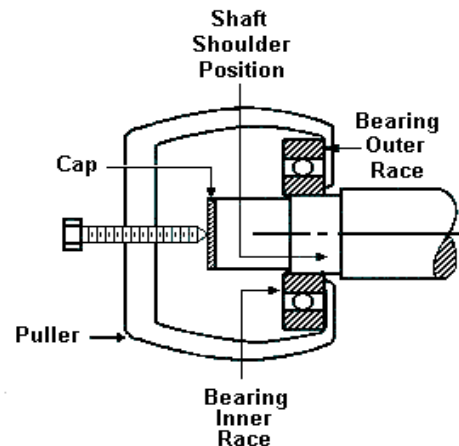

Figure 4. Removing Bearing with a Puller
4. Remove the bearing with a puller. See Figure 4.